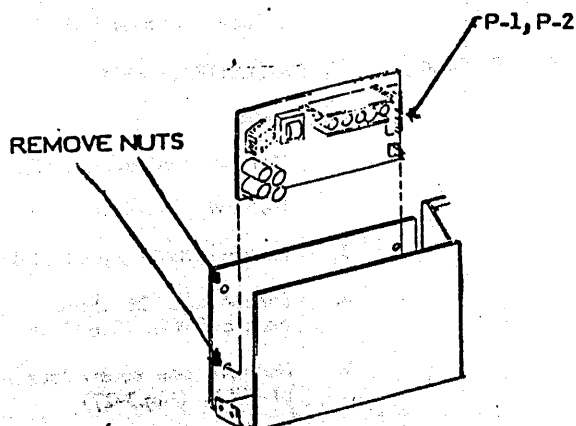

FIG. 3-23 POWER SUPPLY REPLACEMENT
3. Remove (4) nuts securing power supply to bracket.(Fig. 3-23)